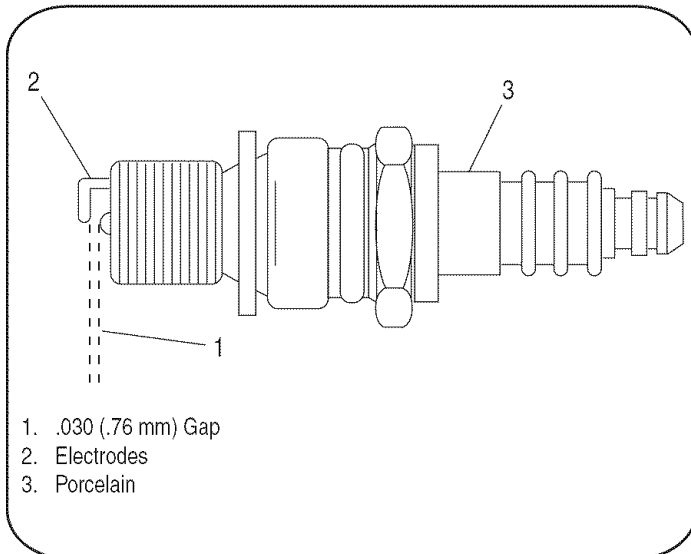

Figure 5-3
- Check electrode gap with wire feeler gauge and reset gap to .030 inches. See Figure 5-3.